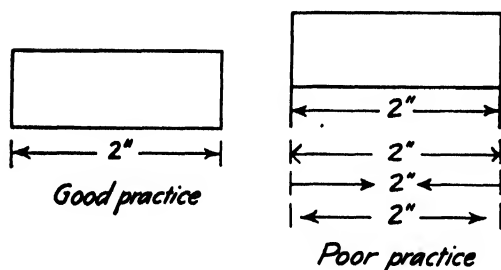

Fig. 2-6. Examples of good and poor practice in dimensioning.
3. Make neat, sharp arrowheads, and make the points come *exactly* to the extension lines (see Fig. 2-6).